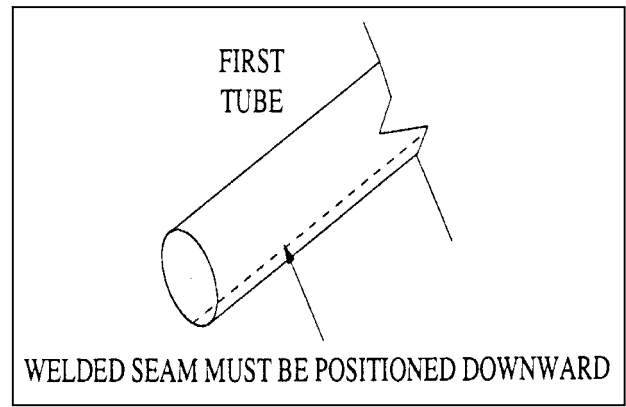

Figure 2-7
**IMPORTANT:** Mount all tubes with welded seam facing downward (See Fig. 2-7). Be sure to have swaged ends pointed towards the exhaust end of the heater.